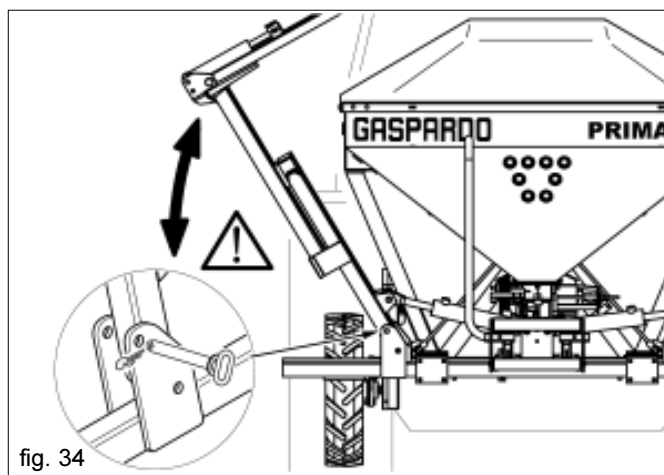

fig. 34
WARNING!: Remove the safety pins and lift the planting unit so that it completely clears the ground before handling the side frames (Fig. 34).
- Grease the folding arm supports of the frame (Fig. 34).